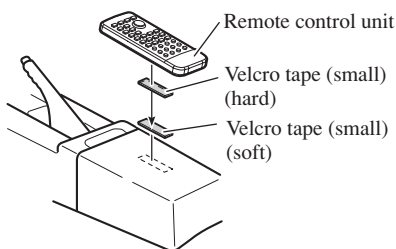

**Fig. 13**
- The cords must not cover up the area shown in the figure below. This is necessary to allow the amplifiers to radiate freely. (Fig. 13)